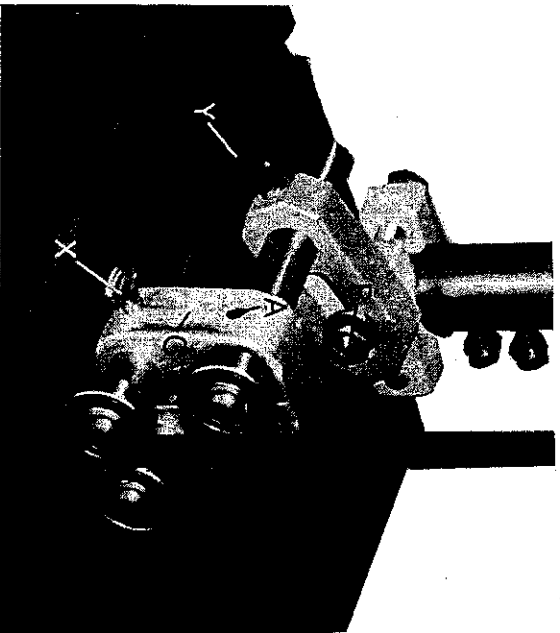

FIG 13
- 1) Loosen grubscREW "A" and M10 "B" Fig 13. then position guide body "C" central and parallel to blade see Fig 14, then tighten up grubscREW "A" and M10 Nut "B".
- 2) Slacken thumb screw "Y" Fig 13, and set near guide roller approximately 5mm clear of back of blade (See Fig 15) and lock up thumb screw securely.
- 3) Slacken thumb screws "X" Fig 13, and move side guide rollers forward as positioned in Fig 15, then pivot side guide rollers on anti lock eccentrics until they are just clear of blade and lock thumb screw "X".